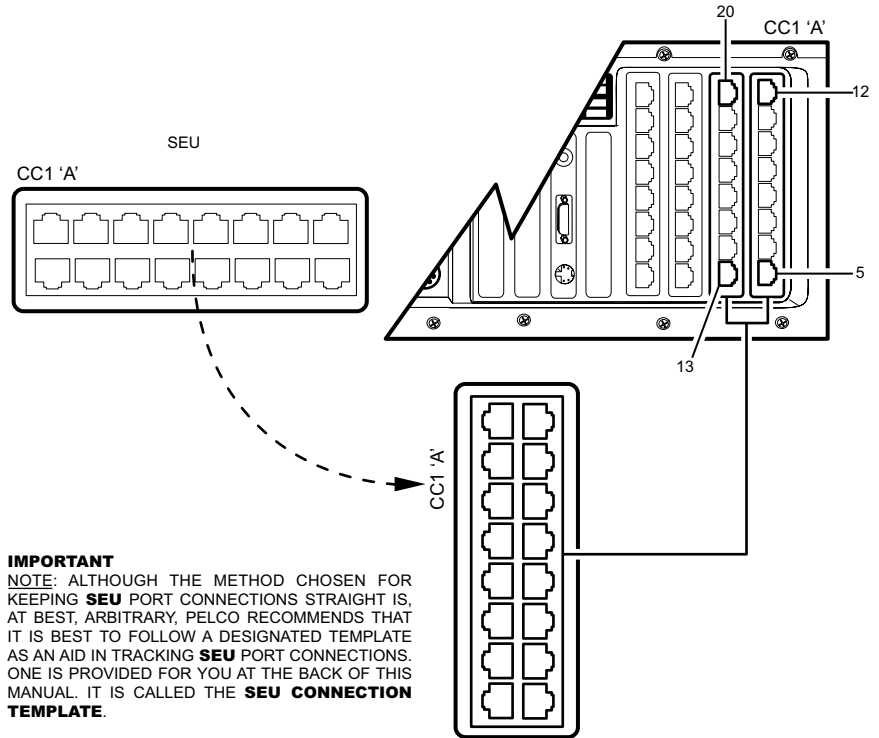

Figure 1-8. Port Connection Mnemonic
**A NOTE OF CAUTION:** Random attachment of cabling between CC1s and SEUs can lead to confusion about what is attached where. It is suggested that you map the physical port arrangement found in your CC1 outputs to those utilized on the SEU (as far as that is possible). One method is to mentally rotate the SEU (clockwise or counterclockwise, it does not matter) and associate the port locations you use on the SEU to those existing on the CC1. In Figure 1-8, the CC1 'A' side of the SEU is shown rotated counterclockwise. You can extend the use of this visual mnemonic to the SEU's B side, the output, and additional SEUs, if needed (also see the NOTE in Figure 1-8).